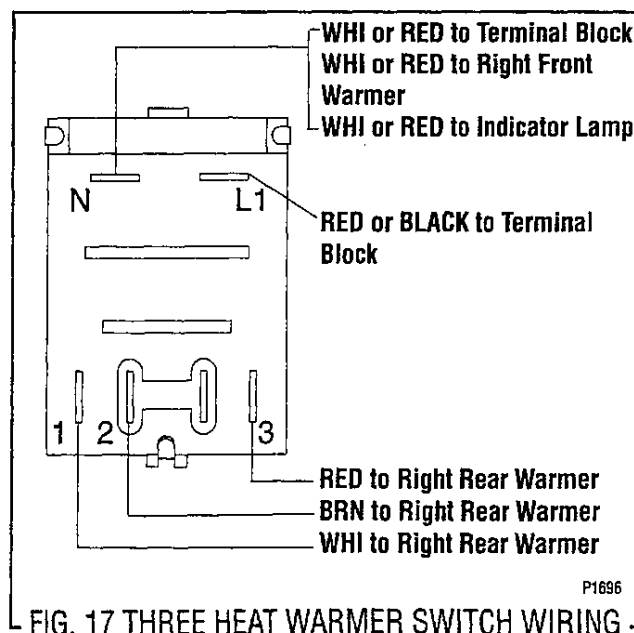

FIG. 17 THREE HEAT WARMER SWITCH WIRING
4. Refer to FIG. 17 when reconnecting the wires.